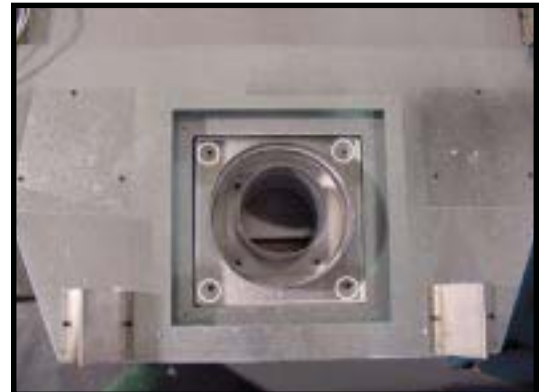

Figure 8 - Remove Screws from Outer Collar
4. Remove four screws holding the outer collar to the appliance top. See Figure 8. Remove the outer collar.